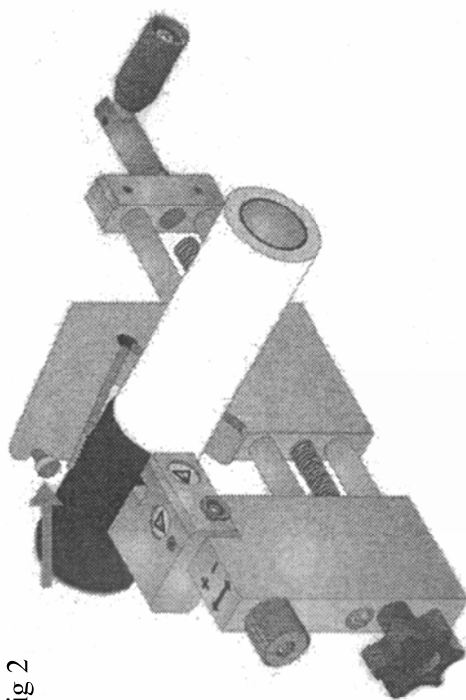

Fig 2
- 3.1.5 Position the cutter at the front edge of the screen and set the depth of cut using the small metal knob marked by a green arrow, as shown in Fig 2 of GR2D 6.28.3. The adjustment is anticlockwise to increase the depth of cut, clockwise to decrease. Each click is 0.1mm. If necessary, practice on a scrap piece of cable to obtain the correct depth setting.
- 3.2 Take one end of the braid and expand to the width of one core, once expanded 20mm from the end of the expanded braid open a hole in one side of the expanded braid, this hole should be large enough for the core to pass through the hole. See figure 2 of GR2D 6.29.2.